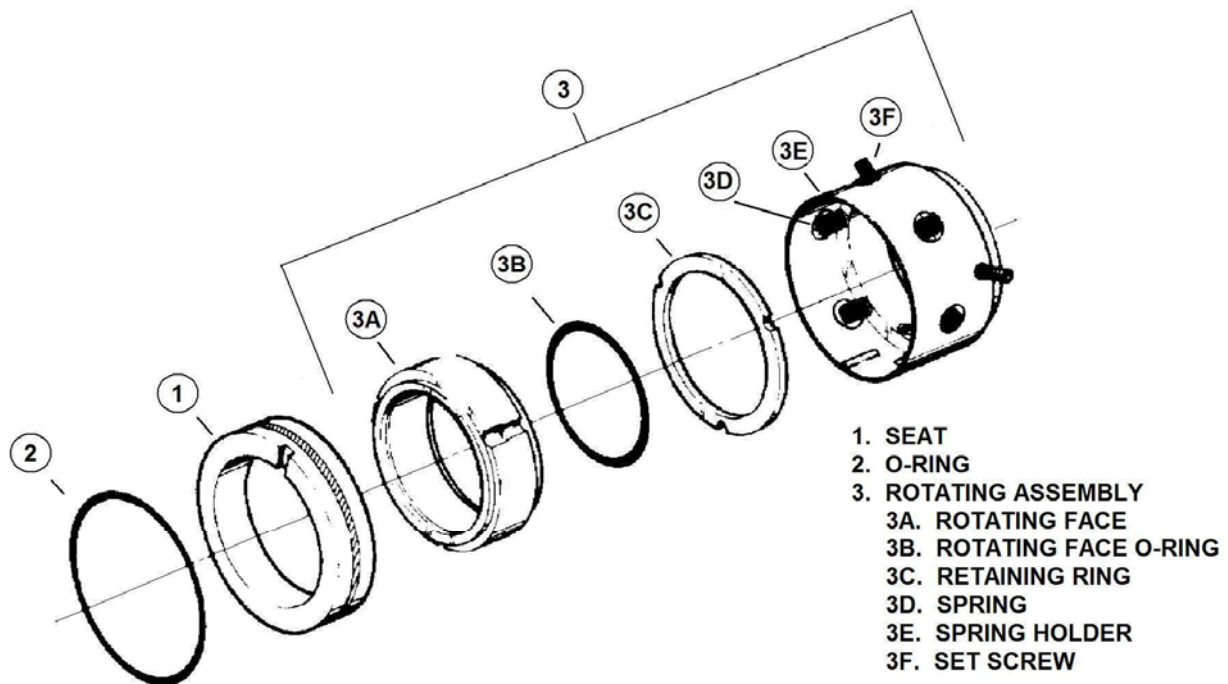

Figure 3. Mechanical Seal Drawing
The GLH8L-462 series pump is equipped with a positive drive mechanical seal. This is a balanced mechanical seal with a carbide rotating face and a carbide stationary face. Refer to mechanical seal drawing, figure 3, for construction.
- Pull power rotor (22) assembly forward from pump to expose mechanical seal (27) assembly which is mounted on seal sleeve (26).
- Remove inner spacer (29) and outer spacer (30).
- Remove seal sleeve (26) from power rotor (22) shaft. Removal of seal sleeve (26) will also remove mechanical seal (27), seat adapter (63), gasket (65), and spiral ring (28).
- Remove spiral ring (28) from groove of seal sleeve (26).
- Remove seat adapter (63) with gasket (65). Remove mechanical seal stationary seat (1, figure 3) with O-ring (2, figure 3) from seal sleeve (26).
15. Loosen setscrew (3E, figure 3) from seal spring holder (3D, figure 3) and slide mechanical seal rotating assembly (3, figure 3) from seal sleeve (26).
16. Remove O-ring (69 or 25) from internal groove of seal sleeve (26).
17. Inspect power rotor (22) shaft and seal sleeve (26) and remove any nicks or burrs which are present. Polish power rotor shaft to remove any rust or oxidants that may be present under seal sleeve. The manufacturer recommends replacement of ball bearing (31), mechanical seal (27), gasket (65), and O-ring (69 or 25) when these parts are disturbed from their original installed position. All parts should be coated with light lubricating oil to assist in assembly.
18. Install O-ring (69 or 25) in internal groove of seal sleeve (26).
19. Install rotating assembly (3, figure 3) of mechanical seal (27) on seal sleeve (26), position against shoulder of seal sleeve (26). Install and tighten setscrew (3E, figure 3).
20. Install stationary insert (1, figure 3) and O-ring (2, figure 3) into seal seat adapter (63), ensuring that lock pin engages slot of stationary seat. Install gasket (65) in seat adapter (63). Install assembled seat adapter subassembly (63) on seal sleeve (26) next to installed mechanical seal rotating assembly, using caution to avoid damage to stationary seat and O-ring (1 and 2, figure 3).
21. Compress mechanical seal enough to expose spiral ring groove and install spiral ring (28) in seal sleeve (26) to lock mechanical seal (27) assembly into place.
22. Install assembled seal sleeve (26) on power rotor (22) shaft until it rests against balance piston (24). Use caution when installing seal sleeve (26) to avoid damage to installed O-ring (69 or 25).
23. Install inner spacer (29) and outer spacer (30) on power rotor (22) shaft. Align outer spacer (30) so openings correspond to drain hole and slots in end cover (13).
24. Slide ball bearing (31) on power rotor (22) shaft.